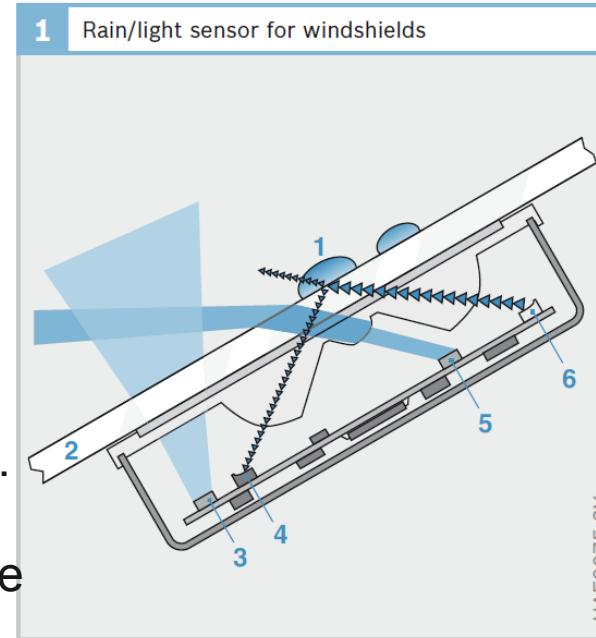

Fig. 1
A rain sensor comprises an optical transmission and reception path (Fig. 1). An LED (6) emits light at a determined angle into the windshield (2) which is reflected on the outer boundary layer (glass/play) (total reflection) and then is evaluated on an aligned receiver (photodiode, 4). If there is moisture on the sensitive outer surface, a part of the light is coupled out as a function of the droplet size and number, which attenuates the return signal.